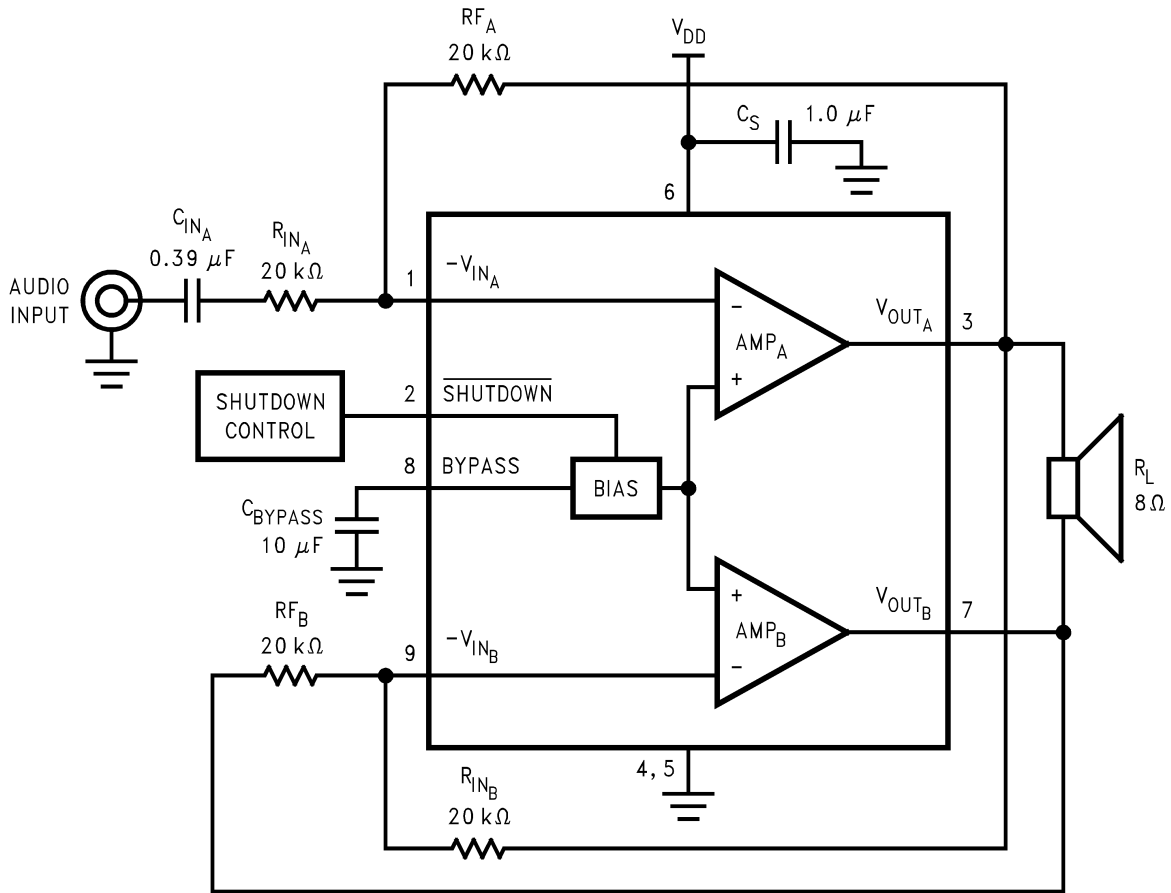

Figure 1. Typical Bridge-Tied-Load (BTL) Audio Amplifier Application Circuit
- (1) All voltages are measured with respect to the GND pin, unless otherwise specified.
- (2) Absolute Maximum Ratings indicate limits beyond which damage to the device may occur. Operating Ratings indicate conditions for which the device is functional, but do not ensure specific performance limits. Electrical Characteristics \$V_{DD} = 12V\$ state DC and AC electrical specifications under particular test conditions which guarantee specific performance limits. This assumes that the device is within the Operating Ratings. Specifications are not specified for parameters where no limit is given, however, the typical value is a good indication of device performance.
- (3) If Military/Aerospace specified devices are required, please contact the Texas Instruments Sales Office/Distributors for availability and specifications.
- (4) The maximum power dissipation must be derated at elevated temperatures and is dictated by T_{JMAX} , θ_{JA} , and the ambient temperature, T_A . The maximum allowable power dissipation is $P_{DMAX} = (T_{JMAX} - T_A) / \theta_{JA}$ or the given in Absolute Maximum Ratings, whichever is lower. For the LM4950 typical application (shown in Figure 1) with $V_{DD} = 12V$, $R_L = 4\Omega$ stereo operation the total power dissipation is 3.65W. $\theta_{JA} = 20^\circ\text{C/W}$ for both DDPAK and TO220 packages mounted to 16in² heatsink surface area.
- (5) Human body model, 100pF discharged through a 1.5 k Ω resistor.
- (6) Machine Model, 220pF–240pF discharged through all pins.
See Figure 1.